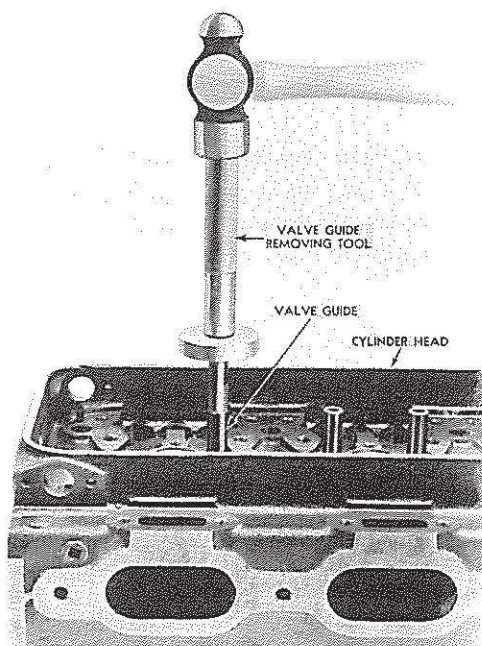

FIG. 14
1. Drive valve guide out from top with special driver shown in Fig. 14.